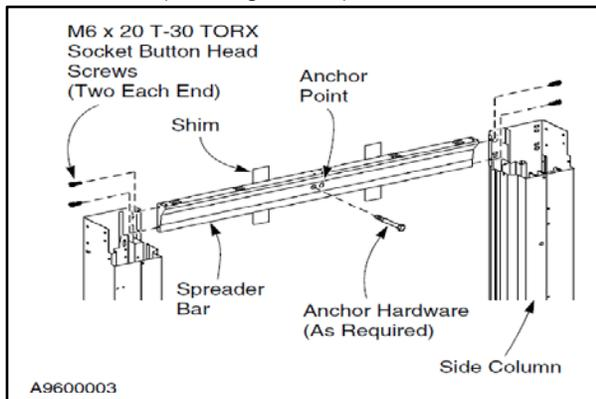

Figure30
3. Inspect the hardware used to attach the spreader bar to the side columns. Tighten the hardware as required. Replace any missing or damaged hardware. (See Figure 30.)